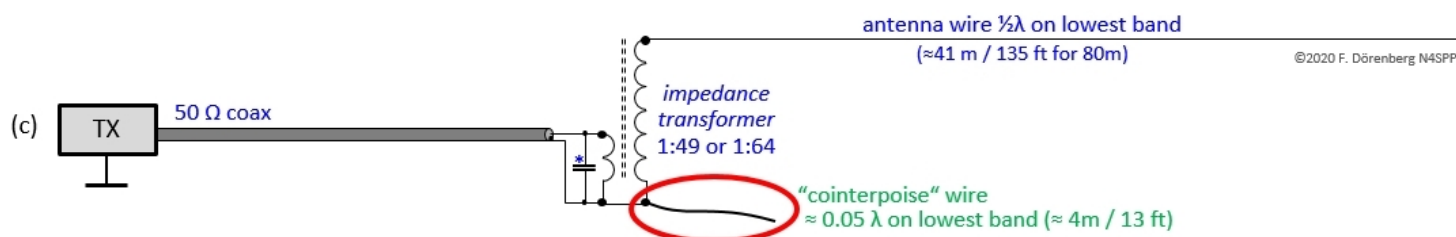
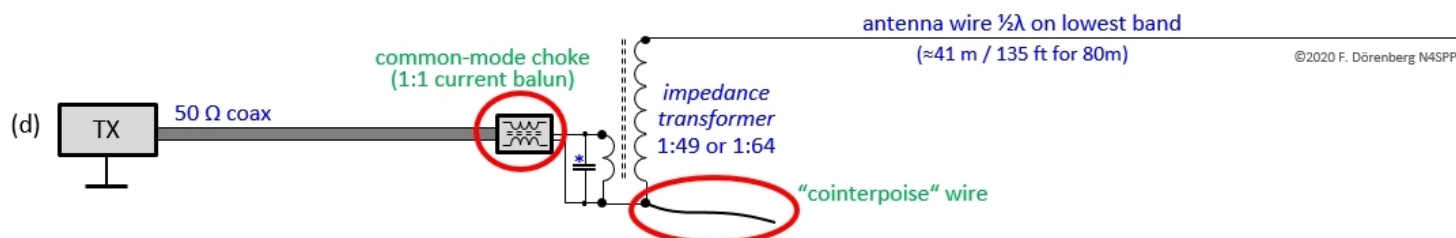
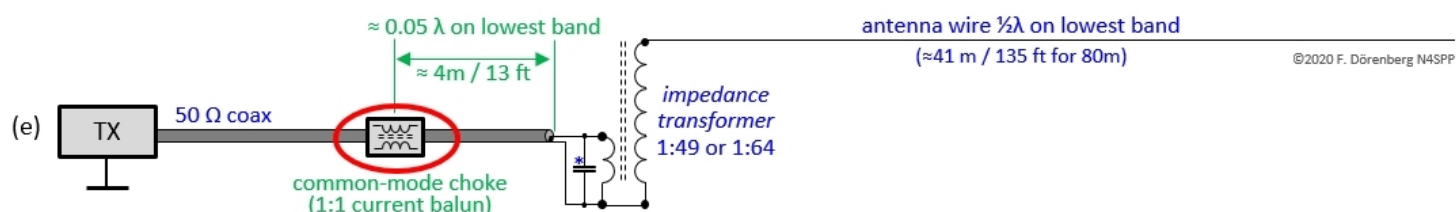

Figure 13: Baseline configuration with counterpoise wire at the transformer
Figure 14: Baseline configuration with counterpoise wire and common-mode choke at the transformer
Figure 15: Baseline configuration with common-mode choke at some distance from the transformer
We can also give the antenna radiator something to push against, by attaching a counterpoise wire to the common point of the auto-transformer. See figure 13 below. That wire does not have to be similar in length to the main radiator wire. A short wire is all that is needed: about 0.05λ , that is ≈ 4.2 m or ≈ 14 ft for an 80 m (or 80-40-20-10) end-fed. See ref. 5, 13, 14. Some current will now flow into the counterpoise wire, and reduce the common-mode current on the coax. The counterpoise wire will radiate, which is OK.
To block the remaining common-mode current on the coax, we can add a common-mode choke (= 1:1 current balun) directly at the transmitter side of the transformer. See figure 14 below. However, this is not a high-current point of the antenna system. So, the choke will not be as effective as it could be...
To make the choke balun more effective, all we have to do, is insert it at a point along the coax that is about 0.05λ away from the transformer (the same as the length of the counterpoise wire in fig. 13). See figure 15 below - again, $\approx 4.2 \text{ m}$ or $\approx 14 \text{ ft}$ for an 80 m end-fed. Ref. 2A, 3, 14. Yes, the coax will radiate, but only the part of the coax between the transformer and the choke balun. It is part of the antenna! Effectively, the configurations of Fig. 14 and 15 are very similar.
Whereas any of the above configurations may "work" at your particular location, the configurations in Fig. 14, 15, and 17 should result in the lowest common-mode current on the coax, and also the lowest receive noise level (especially the configurations in Fig. 14 & 15).